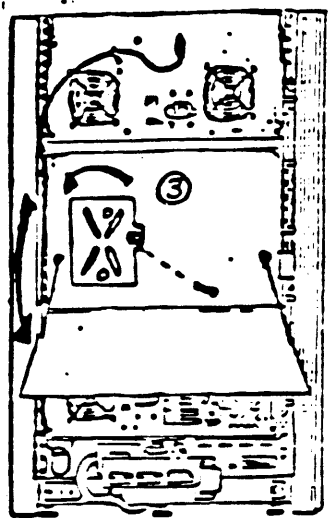

Figure 2-28. Swing the door covering the voltage selection switches to the left.
- o Loosen and remove the screw that holds the door covering the voltage switches and swing the door to the left as shown in Figure 2-28.